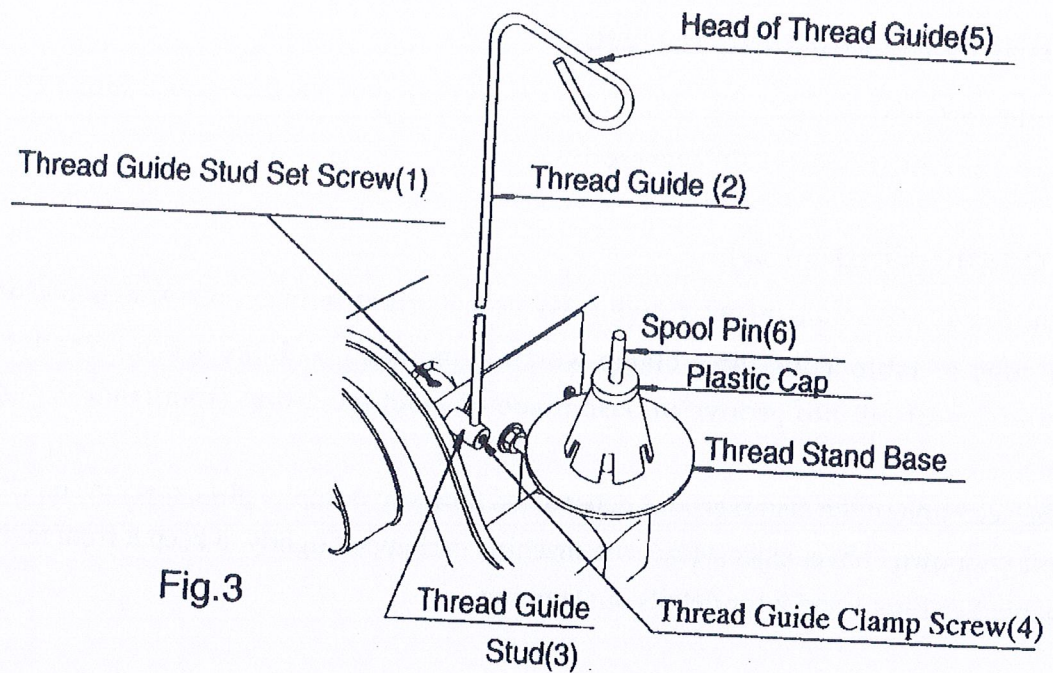

Fig.3
B. Installing Thread Stand(Fig.3)